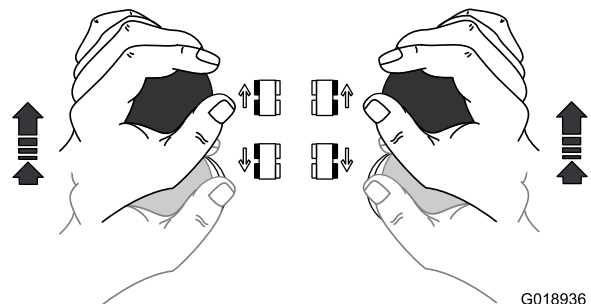

Figure 39
- To move the machine **forward**, grasp the both traction-control levers with your hands and push both levers forward (Figure 39).